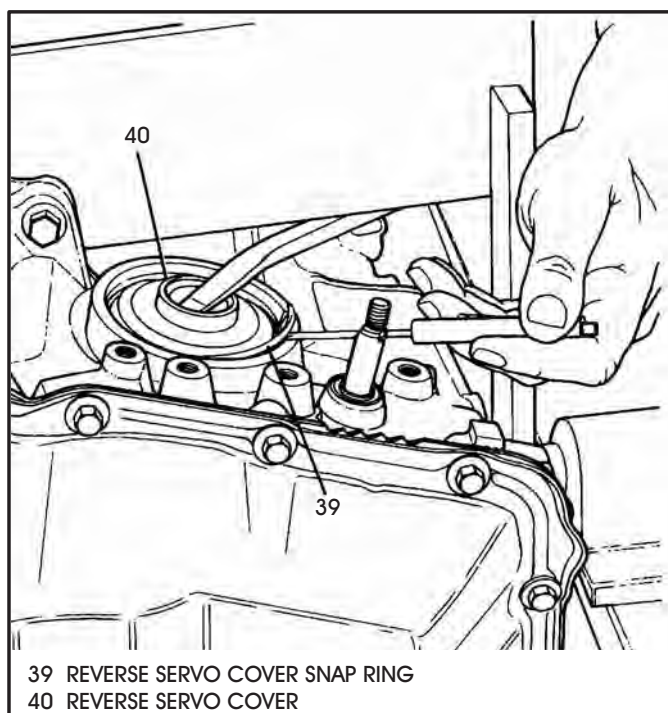

Figure 223
12. Install reverse servo cover using the support fixture as a pivot point to push it down with the large snap ring screwdriver, as shown in Figure 223.
13. While the servo is compressed, slip one end of the snap ring into the retaining groove, then pry in the remainder of the snap ring with another screwdriver, as shown in Figure 223.